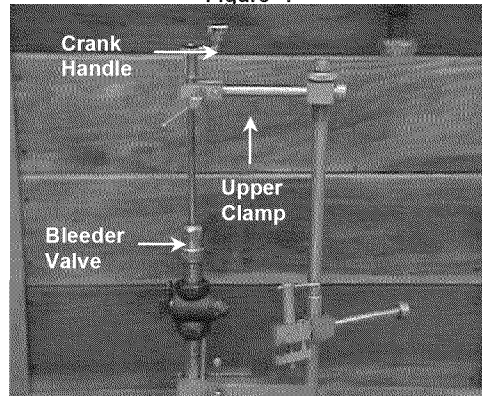

Figure 2
9. Position upper/rear shaft tube clamp around shaft tube, then lower shaft tube/rubber stopper assembly through valve tang port until small portion of shaft tube taper is aligned with bottom of clamp. Tighten clamp. (Fig. 2).
10. Install crank handle, then rotated crank handle clockwise until shaft tube stem extends from handle 1/4". This will tightens rubber stopper. (Fig. 2).
11. Open bleeder, blow-down line and confirm rubber stopper has shutdown gas line. (Fig. 2).